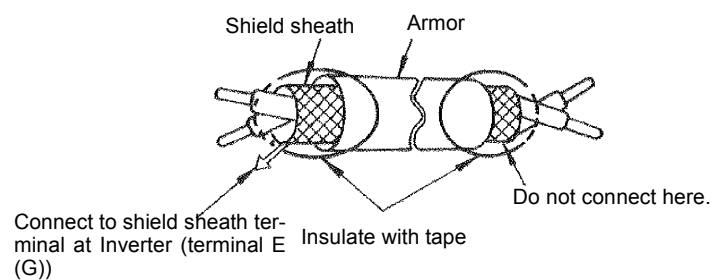

Fig 2.20 Processing the Ends of Twisted-pair Cables
- Use twisted-pair or shielded twisted-pair cables for control circuits to prevent operating faults. Process cable ends as shown in *Fig 2.20*.
- Connect the shield wire to terminal E (G).